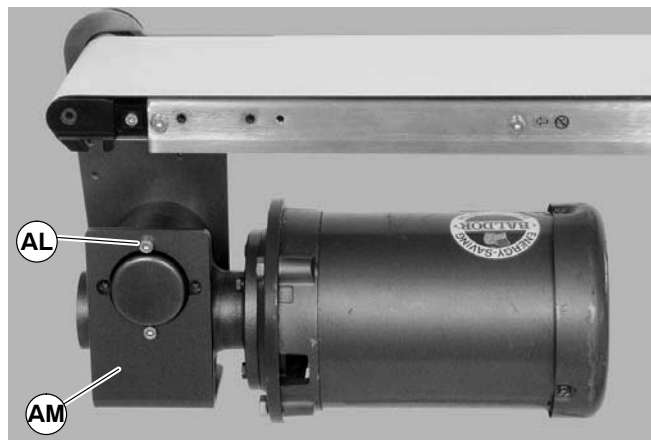

Figure 26
6. Remove two (2) bracket screws (AL of Figure 26) and remove bracket (AM).